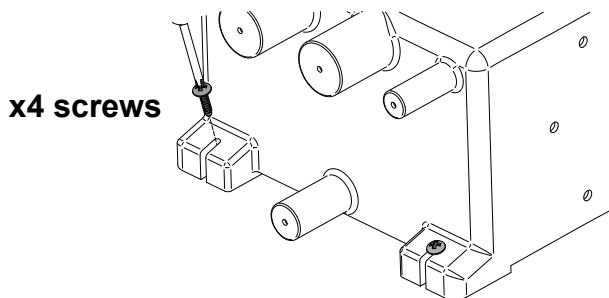
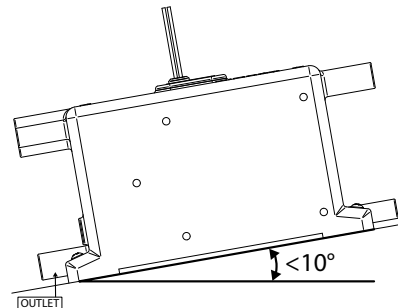

Figure 4 Securing The Tank
Figure 5 Maximum Possible Angle of Installation
- Fig. 4 Securing the Tank
- Fig. 5 Maximum Possible Angle of Installation
Step 2: The tank must be secured using 4 appropriate screws, through the feet of the tank as shown in Figure 4. **NOTE:** The angle of the tank must not exceed 10° (Figure 5). **NOTE: Do not screw directly to the hull – MUST** be mounted on a bulkhead or an additional board.